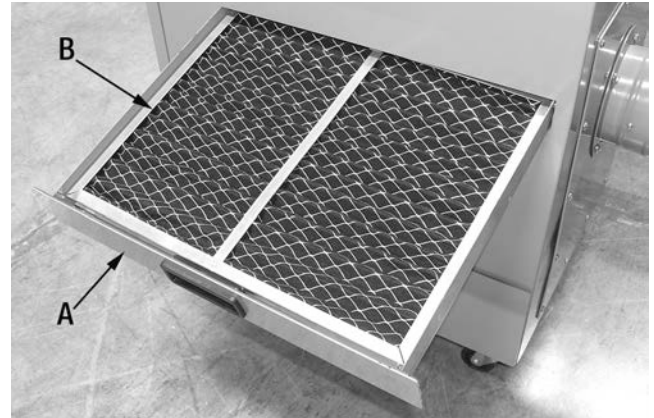

FIGURE 8
1. Open the Iron Activated Carbon Filter drawer (A) Fig.8 by pulling it out of the cabinet.
2. The Iron Activated Carbon Filter (B) is held in place with hook & loop strips, pull the Iron Activated Carbon Filter upwards to detach it from the drawer. Remove and replace filter. Replace the filter after 300 hours of operation or when the overall airflow is reduced, as this is a sign that the filter is permanently clogged.